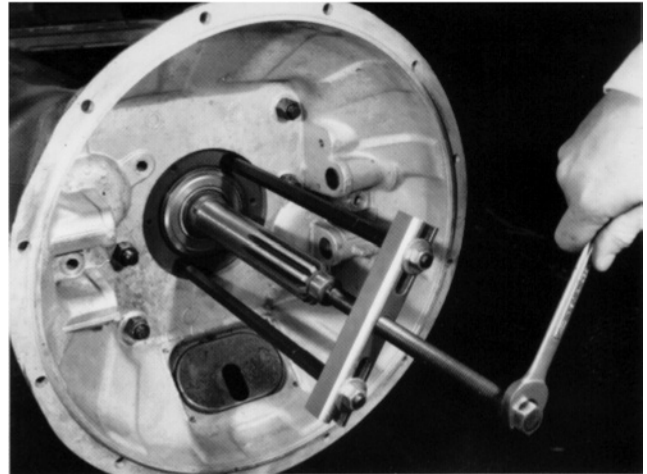

FIGURE 1
1. Assemble cross block, screw, and legs to transmission case as shown in Figure 1. Note that all three leg lengths (Items, 5, 6, & 7) are used.